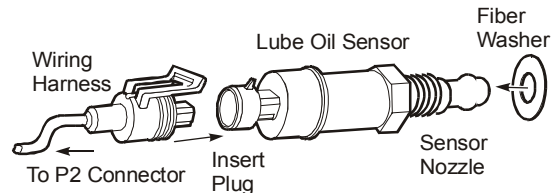

Figure 5: Connecting the Wiring Harness to the Sensor
2. Fit the fiber washer over the sensor nozzle as shown in Figure 5.
Refer to Figure 5 and the following procedure to connect the sensor to the control: